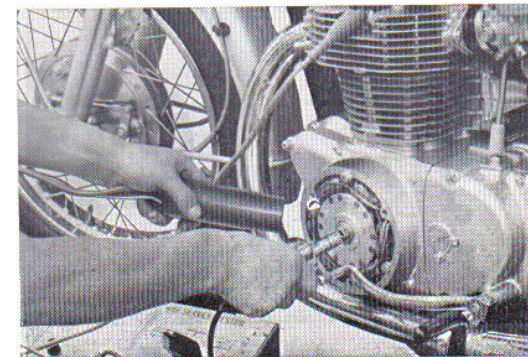

Fig. 6.11 Checking Ignition timing
h. Upon completion of the point clearance and the ignition timing adjustments, check the operating condition of the spark advancer with a timing light. (Fig. 6.11)